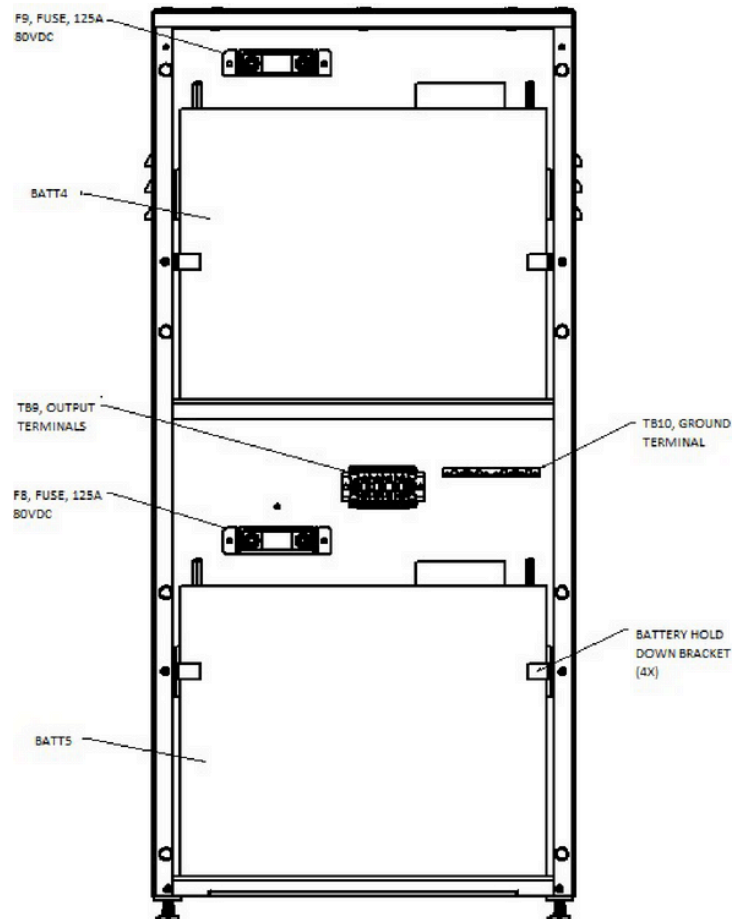

Figure 14
The battery cabinet, NV24, comes with 4AWG wire. Connect the wire to the output terminals on the battery cabinet. Torque to 32 in-lb. (3,7Nm). See figure 14.
- Rotate the battery hold down brackets 90 degrees so that each bracket is against the face of the battery. Tighten the bracket in place (see figure 14). Both of the batteries in the NV24 have these brackets on both sides of the batteries.
- Connect the black battery wire to each battery negative terminal using the terminal hardware provided with each battery. Each battery has two (2) terminals marked as ‘-’. Either terminal is acceptable to connect the black battery wire. Torque the battery terminal to 160 in-lbs. (18Nm).
- Connect the red battery wire to each battery positive terminal using the terminal hardware provided with each battery. Each battery has two (2) terminals marked as ‘+’. Either terminal is acceptable to connect the red battery wire. Torque the battery terminal to 160 in-lbs. (18Nm).
- Connect the CAT5 ethernet cable to the battery RS485 port. There are two (2) RS485 ports. The upper battery has one (1) CAT5 cable to install. Either RS485 port on the battery is acceptable. The lower batteries have two (2) CAT5 cables to install in each of the RS485 ports.